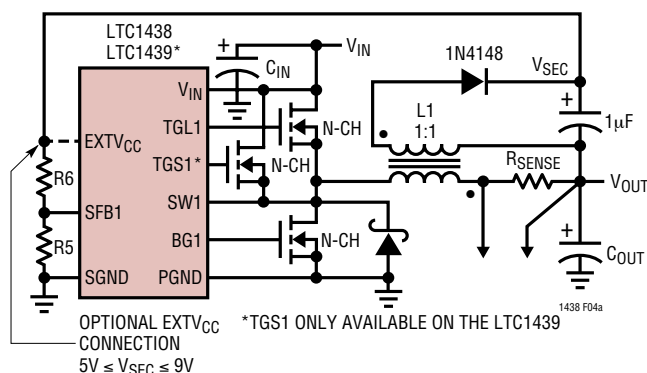
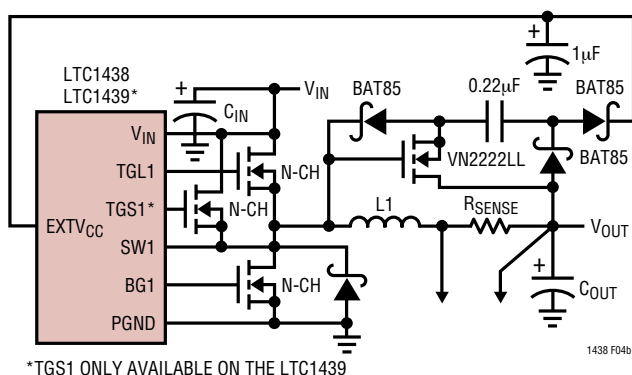

Figure 4a. Secondary Output Loop and EXT_{VCC} Connection
Figure 4b. Capacitive Charge Pump for EXT_{VCC}
3. $EXTV_{CC}$ connected to an output-derived boost network. For 3.3V and other low voltage regulators, efficiency gains can still be realized by connecting $EXTV_{CC}$ to an output-derived voltage which has been boosted to greater than 4.8V. This can be done with either the inductive boost winding as shown in Figure 4a or the capacitive charge pump shown in Figure 4b. The charge pump has the advantage of simple magnetics.
The secondary output voltage is set by the turns ratio of the transformer in conjunction with a pair of external resistors returned to the SFB1 pin as shown in Figure 4a. The secondary regulated voltage V_{SEC} in Figure 4a is given by: